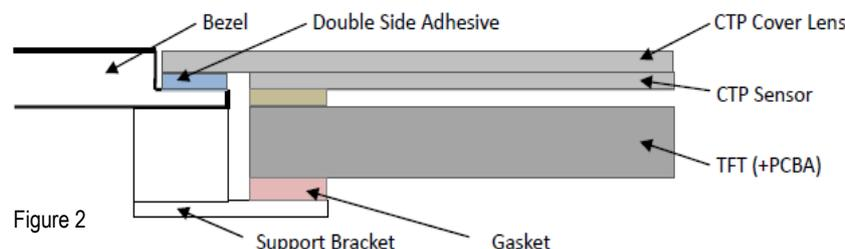

Figure 2
7.2 Surface Mounting (Figure 2)
7.2嵌入安装（附图2）